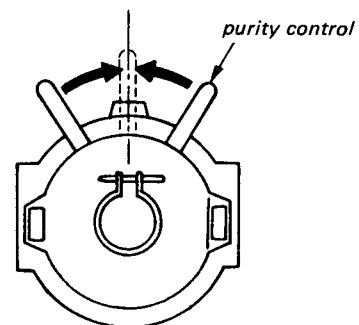

Fig. 3-1.
2. Adjust purity control as shown in Fig. 3-1.